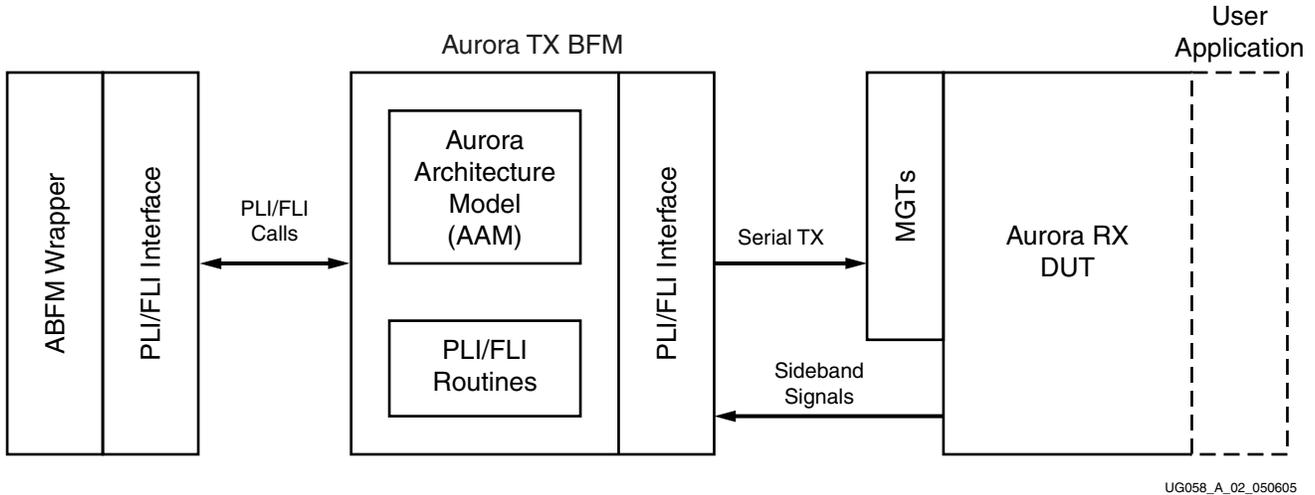

Figure A-2: Aurora 8B/10B Simplex TX BFM: Test Environment with Simplex RX DUT
- **Scenario 1:** A simplex TX BFM talking to a simplex RX DUT (Figure A-2, page 45)
Figure A-2 shows the Aurora 8B/10B simplex TX BFM module in the test environment with a simplex RX DUT.